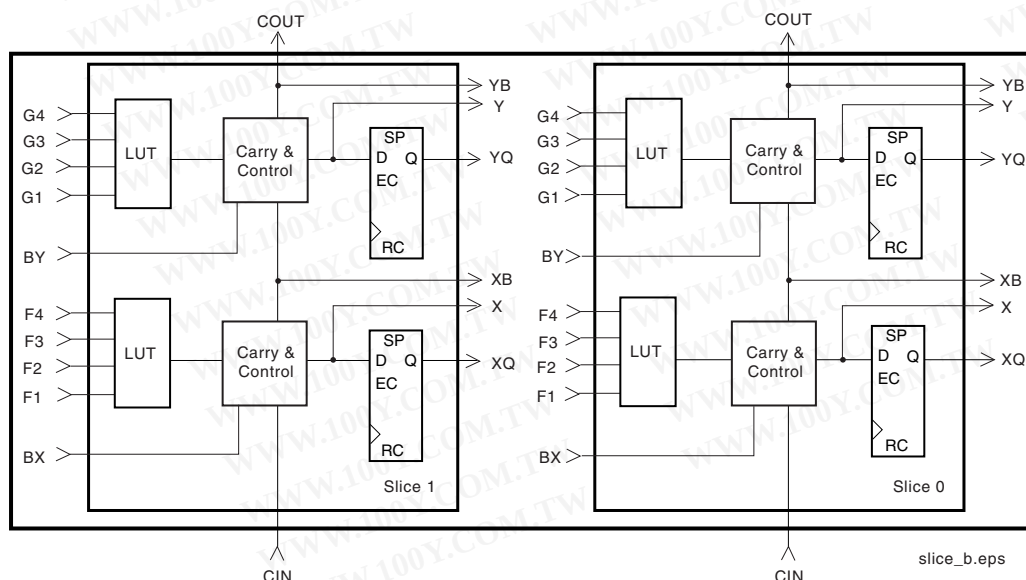

Figure 4: 2-Slice Virtex CLB
The basic building block of the Virtex CLB is the logic cell (LC). An LC includes a 4-input function generator, carry logic, and a storage element. The output from the function generator in each LC drives both the CLB output and the D input of the flip-flop. Each Virtex CLB contains four LCs, organized in two similar slices, as shown in **Figure 4**.